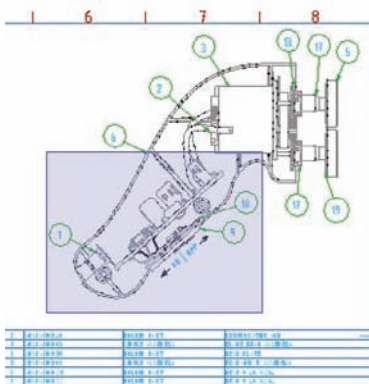

Figure 2.2 The Zoom Rectangle tool will zoom into the high-lighted area.
2. Drag it across the shaver in the right corner of the drawing, allowing some extra space on the right for markup. The area will highlight. **(Figure 2.2)**